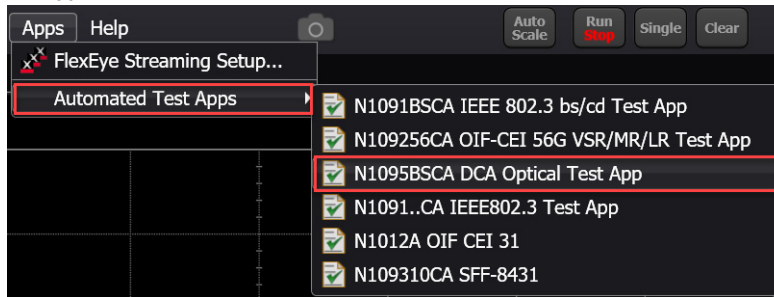
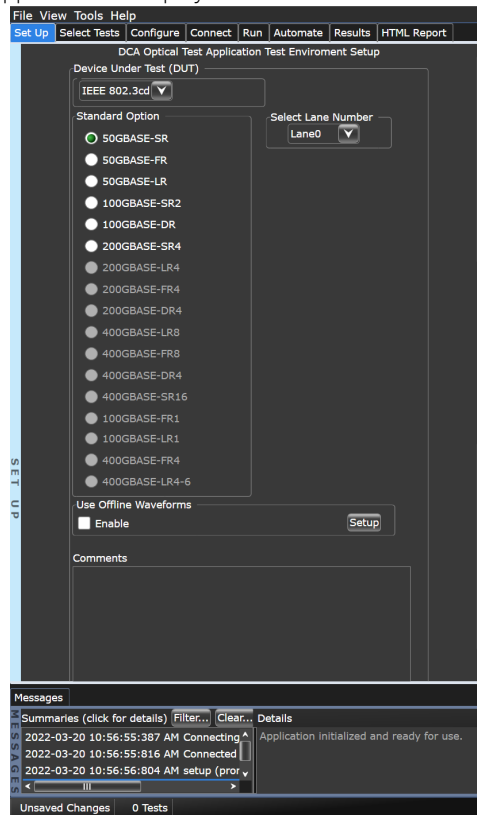

Figure 9 Starting the DCA Optical Compliance Test Application
Figure 10 The DCA Optical Compliance Test Application's default window
Figure 9 shows the procedure to launch the DCA Optical Compliance Test Application and Figure 10 shows the DCA Optical Compliance Test Application default window. The tabs in the main pane show the steps you take in running the automated tests:
- 1 In the **Set Up** tab (shown in Figure 10), select the **Standard Option**, **Lane Number**, and whether you want to use offline waveforms. Table 1 shows a comprehensive list of the tests that are filtered in the **Select Tests** tab for each selection of **Standard Option**.